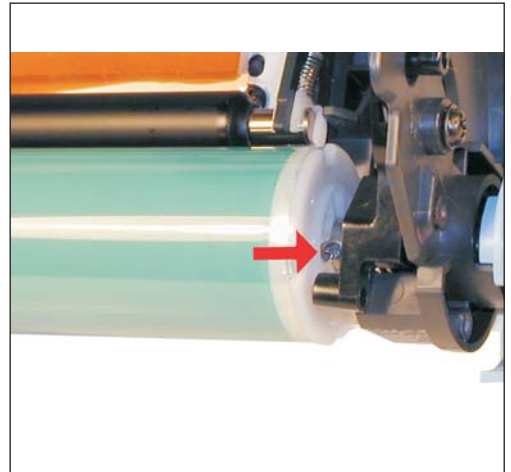

Figure 46
25) Make sure that the pins in the axle shaft fit into the cross section of the drum hub correctly. Fit the handle so that it sits flush with the cartridge, and install the screw. See Figures 46, 47, & 48